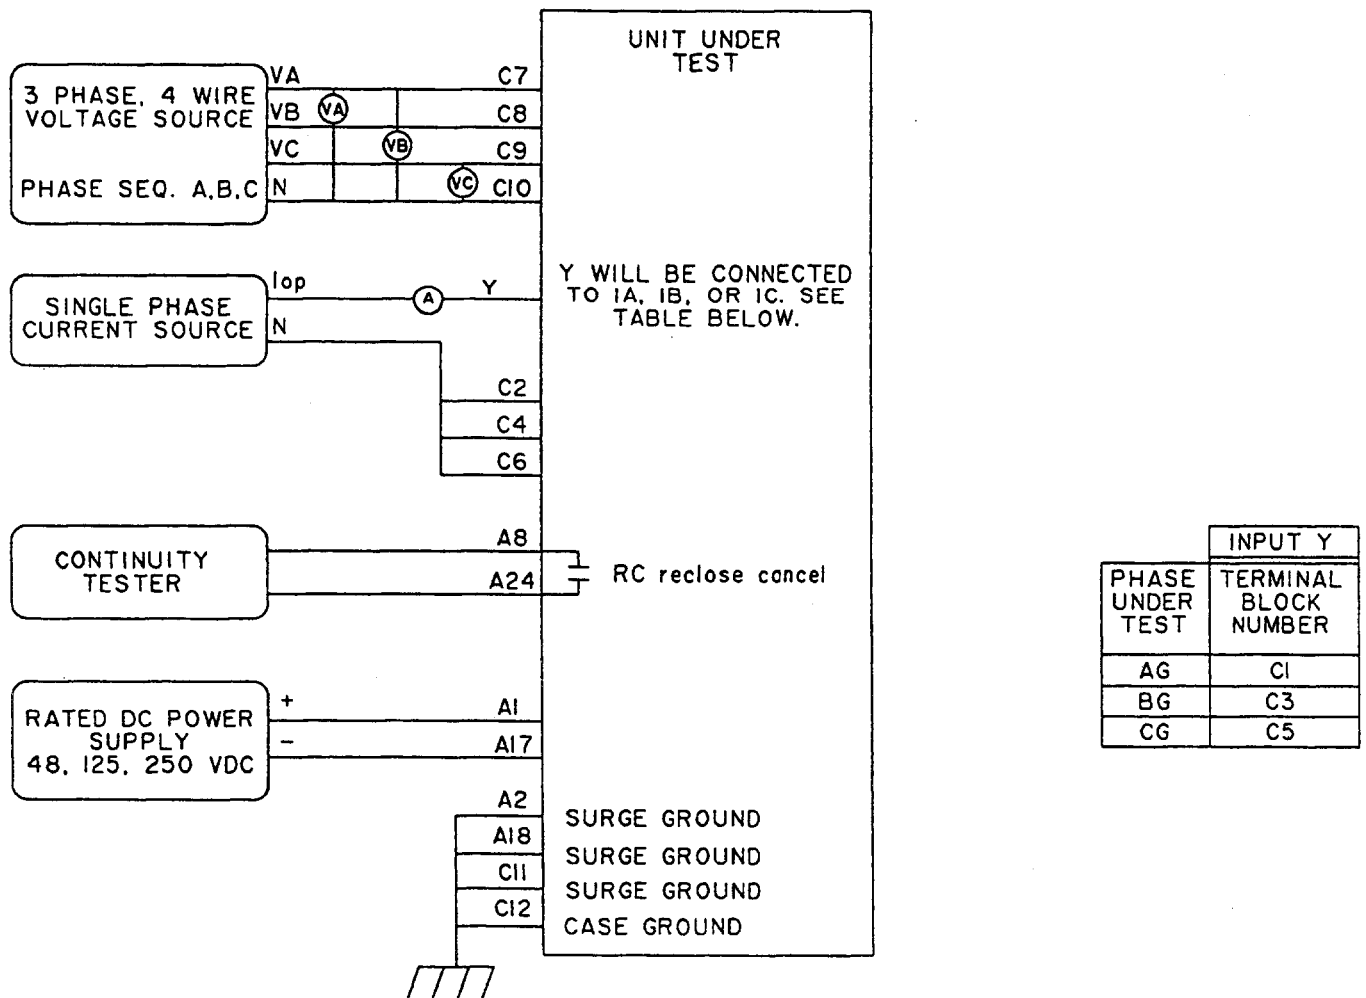

Figure 4-3. Phase-to-ground test connections (drawing #0357A3044, sh. 3).
1. Connect the relay as shown in Figure 4-3.
5. Set Iop to 1.0 amp rms for phases IA, IB, or IC, as shown by the Y connection point in Figure 4-3.
2. Connect the DLP3 as shown in Figure 4-3.
2. Connect the relay as shown in Figure 4-3.